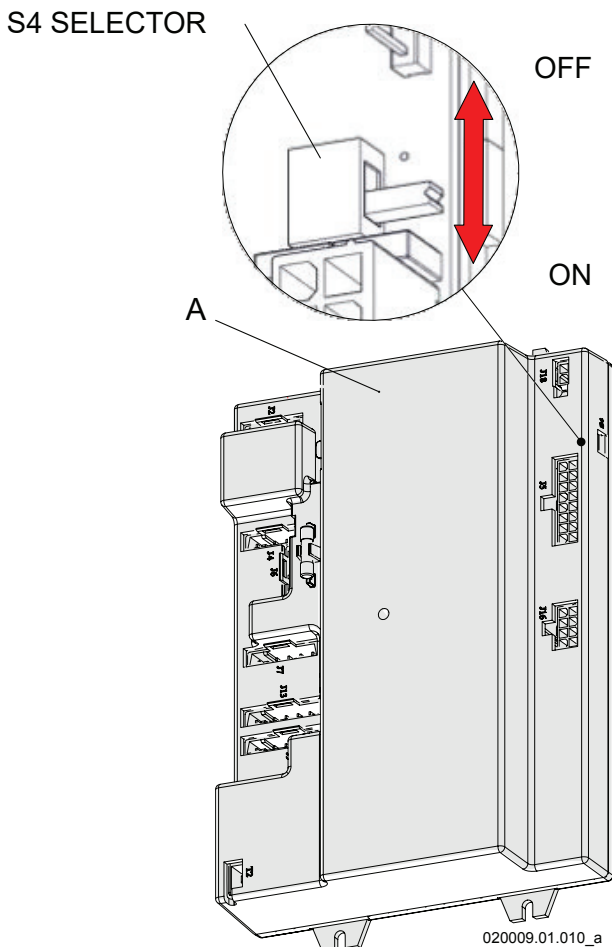

Figure 15-11 - Command board
9. Move selector "S4" as shown in figure 15-11 from the OFF position to the new ON position;